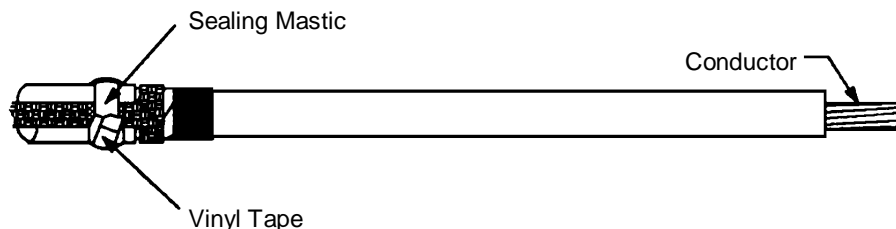

Figure 3
(**Figure 3**). NOTE: Stretch the mastic slightly to remove the paper liner. Discard excess.
(**Figure 3**).
6. Remove cable insulation from end of cable for length previously determined for lug (**Figure 3**).